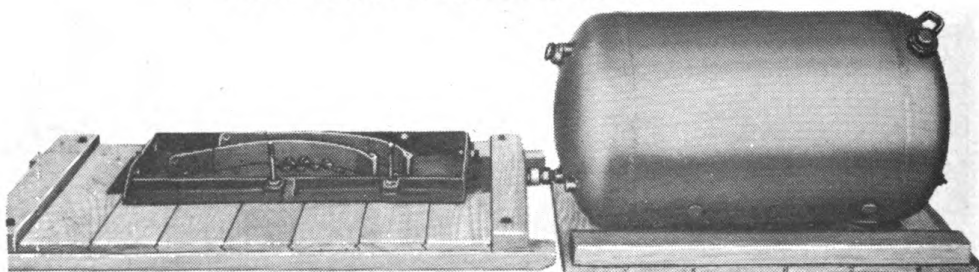

Fig. 13. Sponson fuel group disassembled and ready for installation.
(17) Remove the four nuts, bolts, and lock washers which connect back fuel container straps to baseplate and lift off back fuel container straps (fig. 13).
(18) Remove the two bolts at each end of base bracket. Lift baseplate from bottom of packing box.